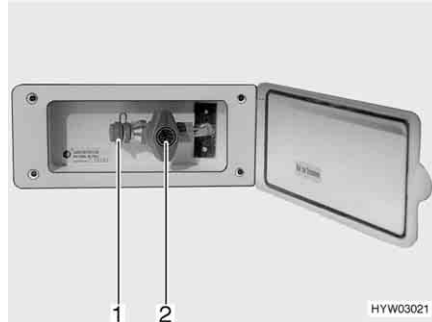

Fig. 142 External gas connection, gas isolator tap closed
The external gas connection (Fig. 142) is located at the rear or to the left or right of the vehicle depending on the model.
- Connect the external gas device to the connection point (Fig. 142,1).
- Open the gas isolator tap (Fig. 142,2).